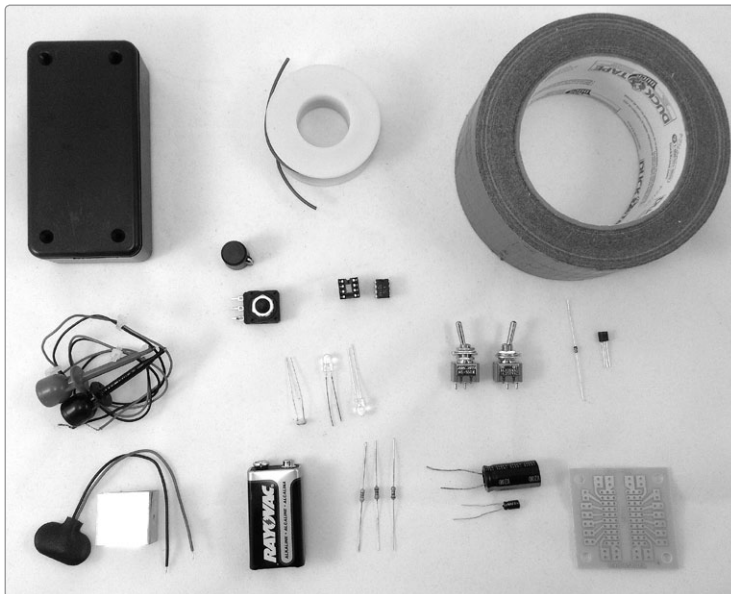

FIGURE 13-2: Tools and supplies (not shown: sandpaper and file)
- ▶ Two alligator clips (Digi-Key parts #461-1013-ND and #461-1014-ND are shown in Figure 13-2.)